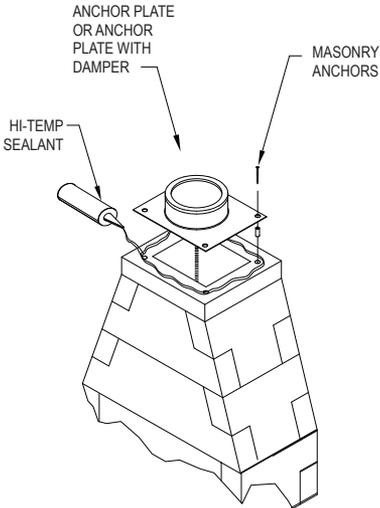

Figure 24
over the masonry flue opening. If a Damper is used, make sure nothing interferes with the damper plate movement. Seal the Anchor Plate in place with a high temperature sealant. Secure Anchor Plate with (4) 2" x 1/4" masonry anchors (**Fig. 24**).